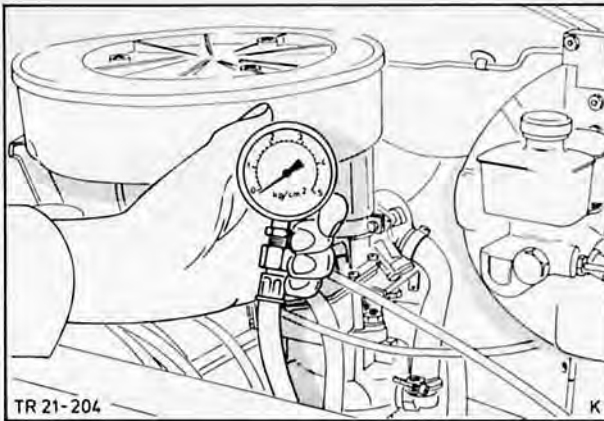

Fig. 12. Connect pressure gauge
2. Connect test pressure gauge to engine block, using adaptors if necessary, Fig. 12